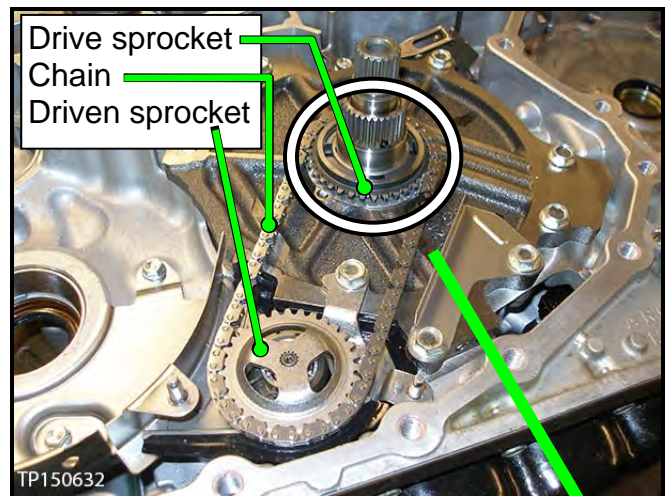

Figure 71
13. Install the drive sprocket, driven sprocket, and chain as an assembly (see Figure 71, 72, and 73).